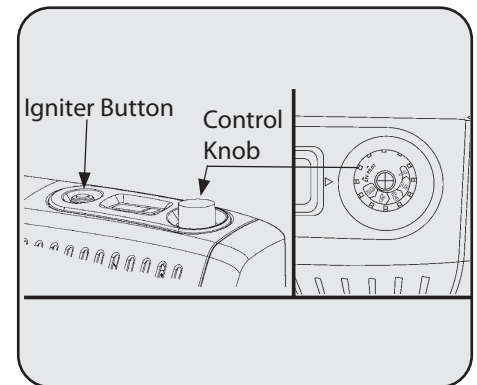

Figure 15
3. Push in gas control knob and slightly turn clockwise to the OFF position See Figure 15.